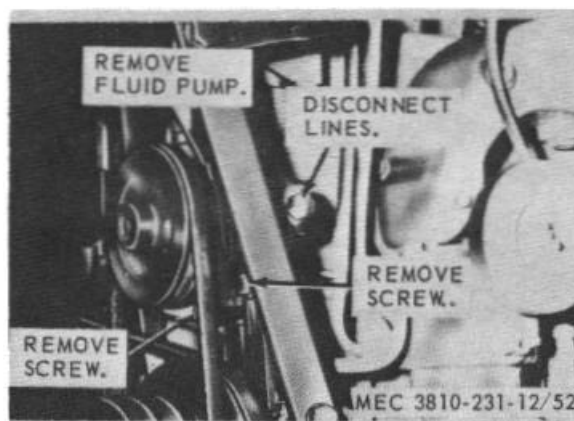

Figure 52. Engine fluid pump, removal and installation
a. Removal. Remove the engine fluid pump as instructed in figure 52.
- (1) Clean the pump with a cloth dampened in an approved cleaning solvent.
- (2) Inspect for cracks, breaks or other damage.
- (3) Replace a damaged or defective fluid pump.
c. Installation. Install the engine fluid pump as instructed on figure 52.